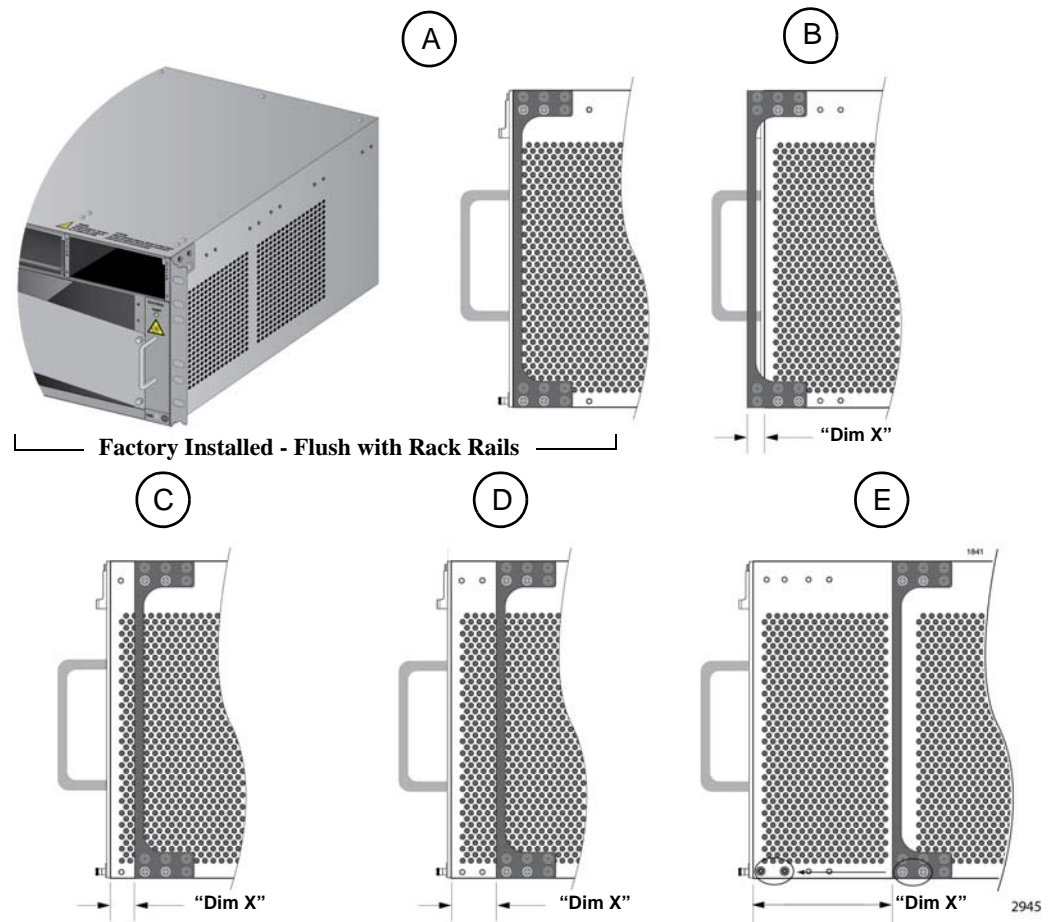
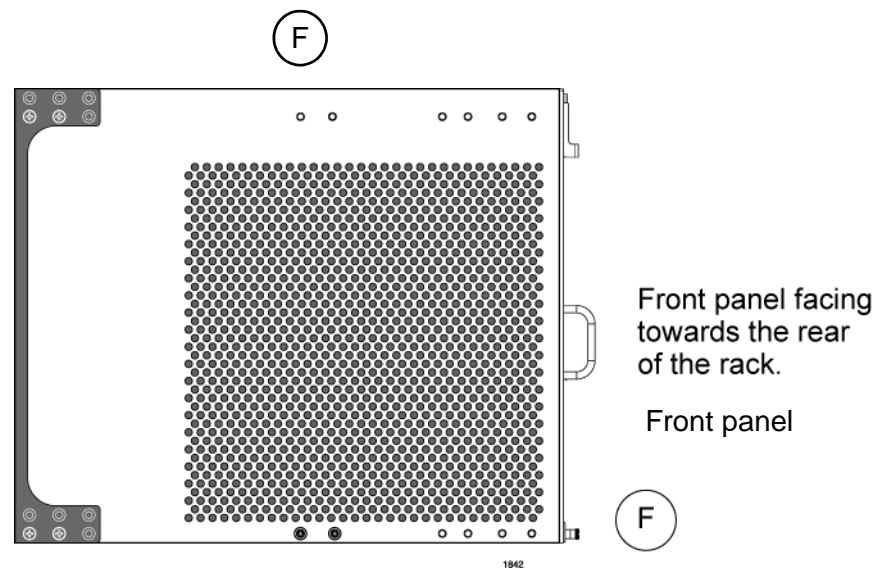

Figure 31. Rack Mounting Bracket Locations
Figure 32. Rack Bracket Locations for Reverse Position of Chassis
You adjust the brackets by removing them and re-installing them in different positions on the sides of the chassis. The bracket positions are listed in Table 20 and illustrated in Figure 31 on page 91 and Figure 32 on page 91. Please review the following information before moving the brackets:
- ❑ To install the rack mount brackets in position “E,” you have to remove the two chassis screws from the bottom-middle section of the chassis and re-install them in front where the rack mount bracket screws were originally, as shown in Figure 31 on page 91.
- ❑ The dimension (X) between the front panel and the rack rails is given for each rack mounting bracket position in Table 20.